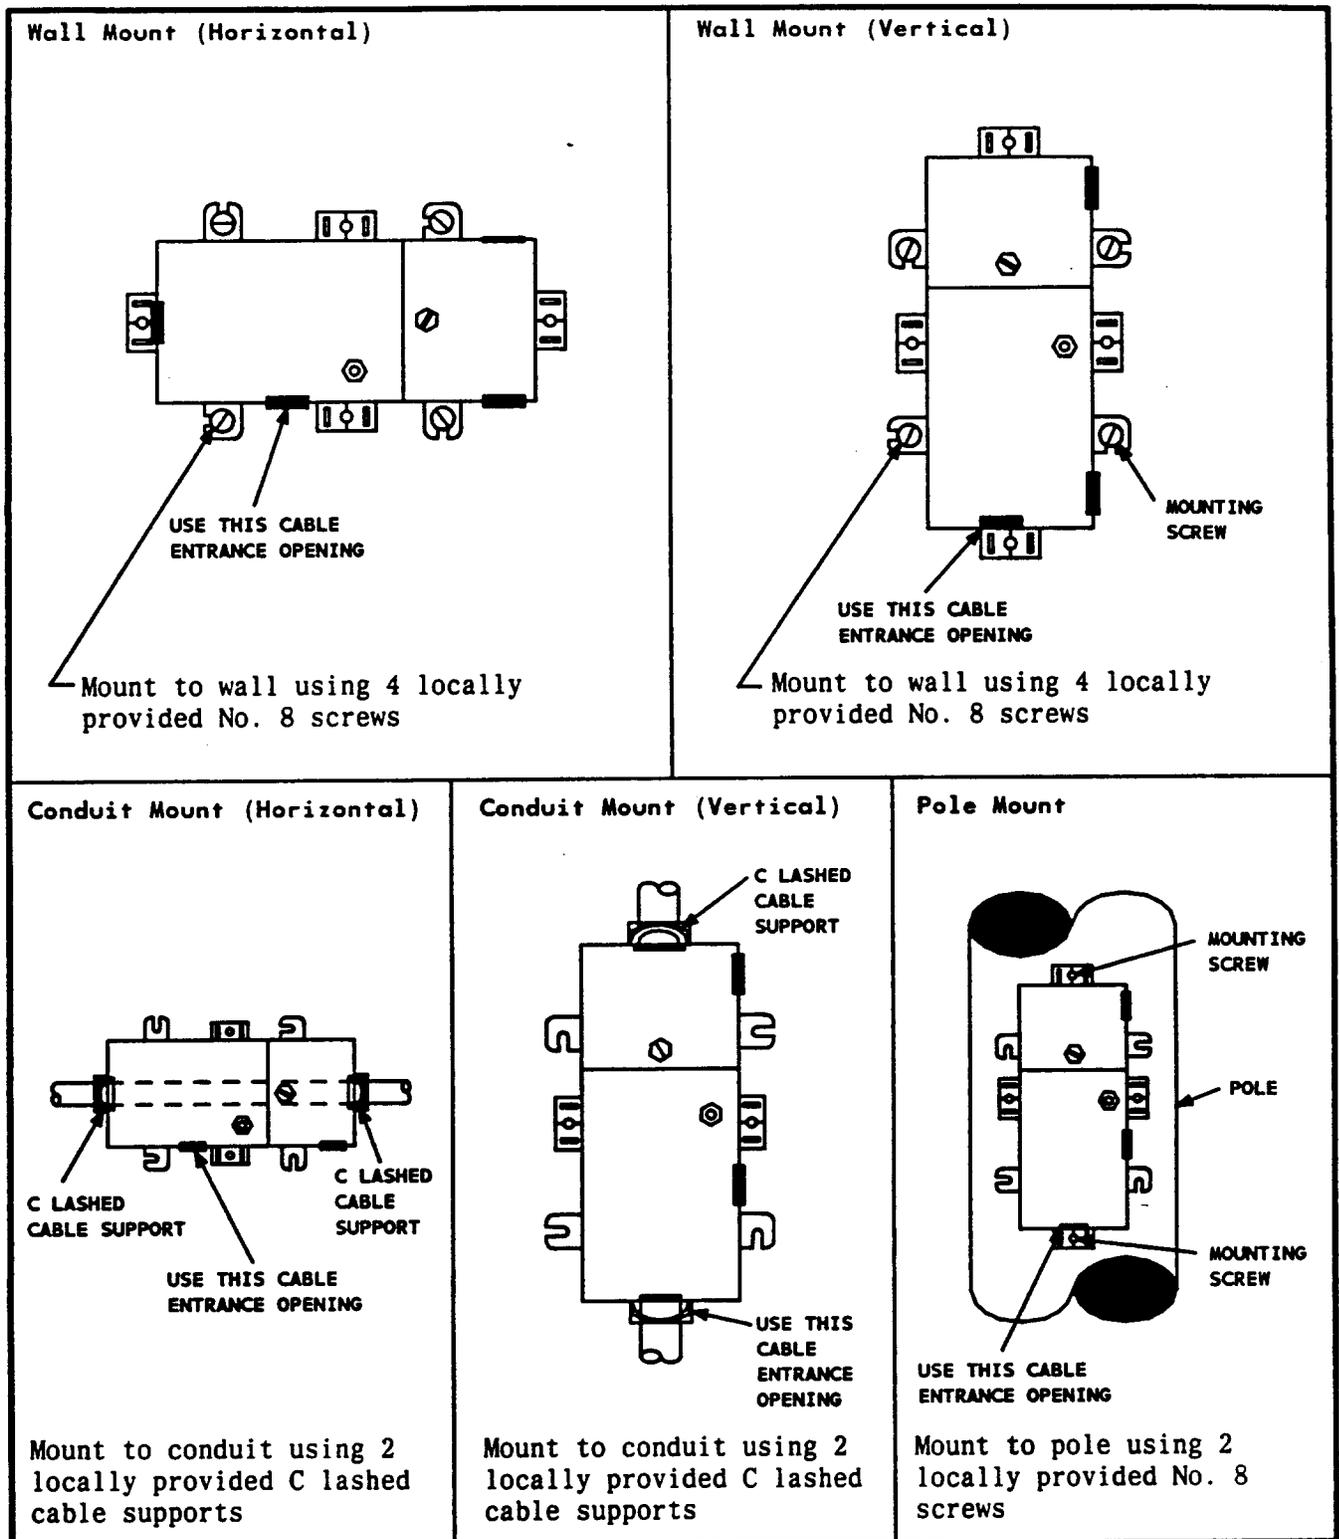

Fig. 6—Mounting the 600-Series NIU
5.01 The 600-Series NIU can be horizontally or vertically mounted on a wall or a conduit. In addition, the 600-Series NIU can be pole-mounted. See Fig. 6 for the various mounting configurations.
5.02 The 600-Series NIU can be horizontally or vertically wall mounted as shown in Fig. 6. Use locally provided No. 8 screws to mount the units. Also, the 600-Series NIU can be horizontally or vertically
5.03 See Fig. 6 for detailed instructions for the different suitable mounts.